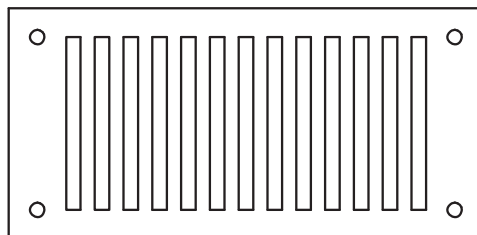

Fig. 17-17
8. Draw the air vent shown in Fig. 17-17 using the **ARRAY** command. Other commands to consider using are **POLYGON** and **COPY**.